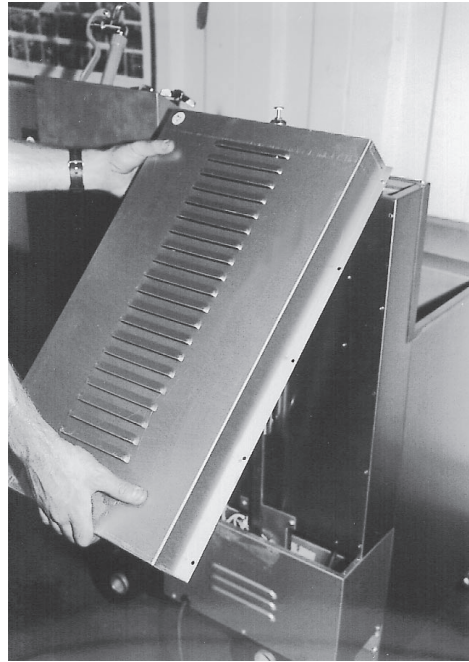

Fig. 63
5. Lift back up and over the lift mechanism. (Fig. 63)